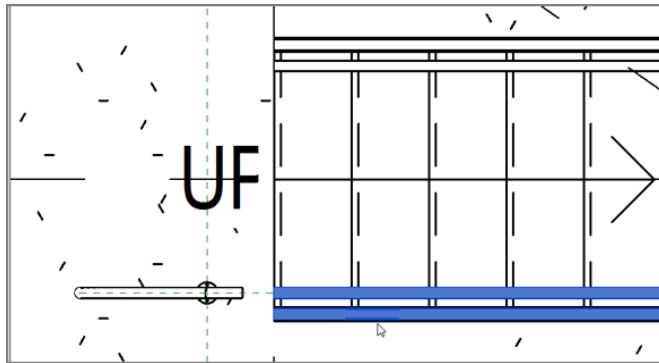

FIGURE 10.16: Selecting the railing, not the stairs
1. In the plan, select the bottom railing, as shown in Figure 10.16. Make sure you aren't selecting the stairs.